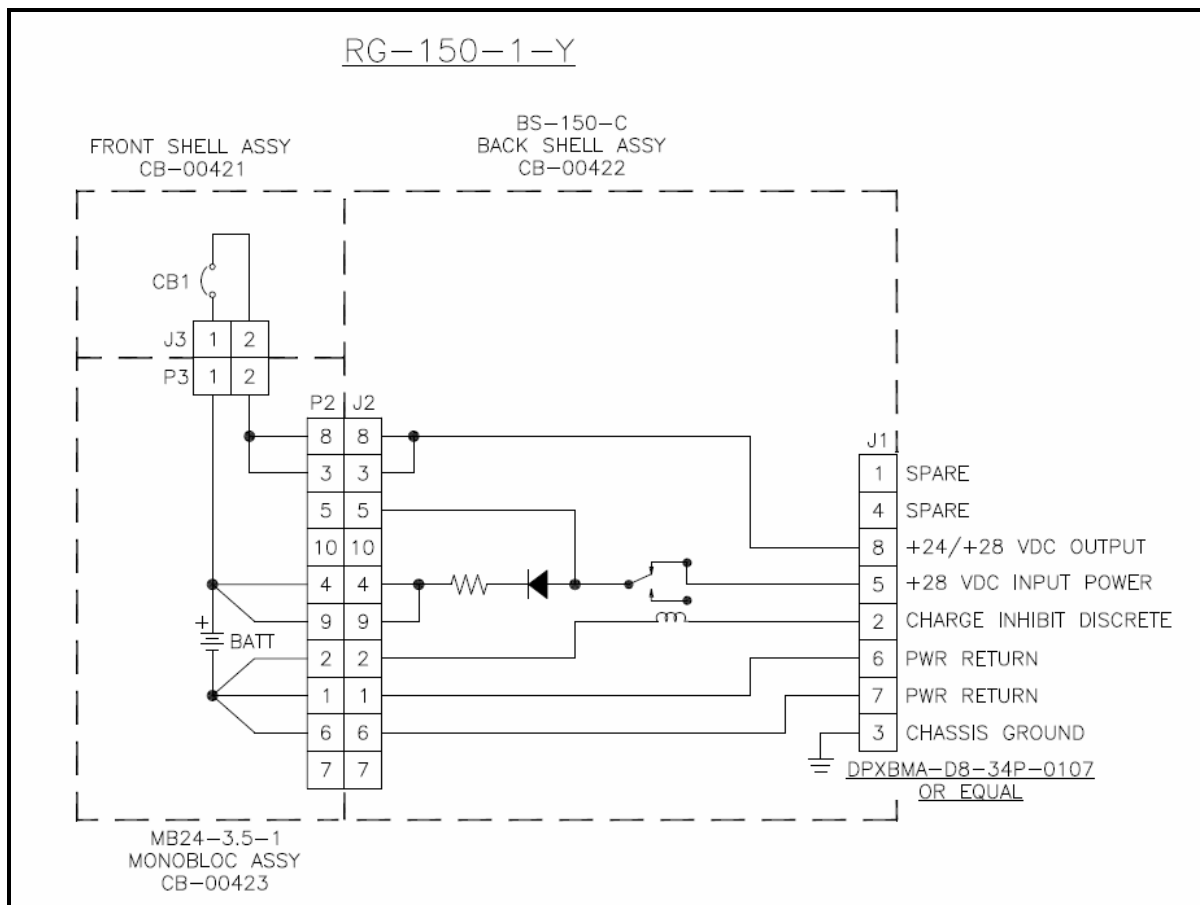

Figure 201. Schematic Diagram for RG-150-1-Y Battery
- A. The schematic diagram for the RG-150-1-Y battery is shown in Figure 201.